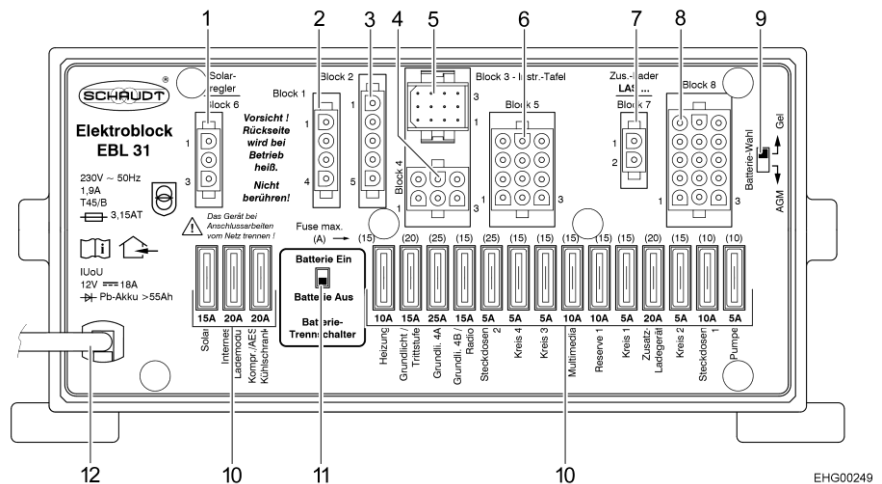

Fig. 41 Transformer/rectifier (EBL 31)
- ▷ Appliances such as the charger, the solar charge regulator, the panel, or similar, take power from the battery, even when the 12 V main switch has been switched off on the panel (Fig. 42,6). Therefore, you switch the battery cut-off switch (Fig. 41,11) on the transformer/rectifier to "Batterie Aus" (battery Off) when the vehicle is not used for a long period of time.